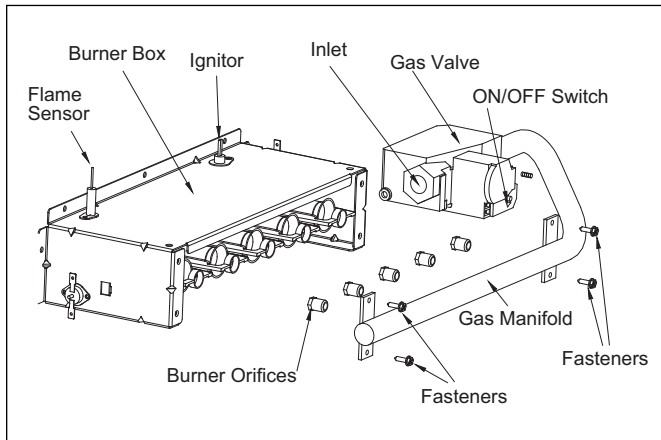
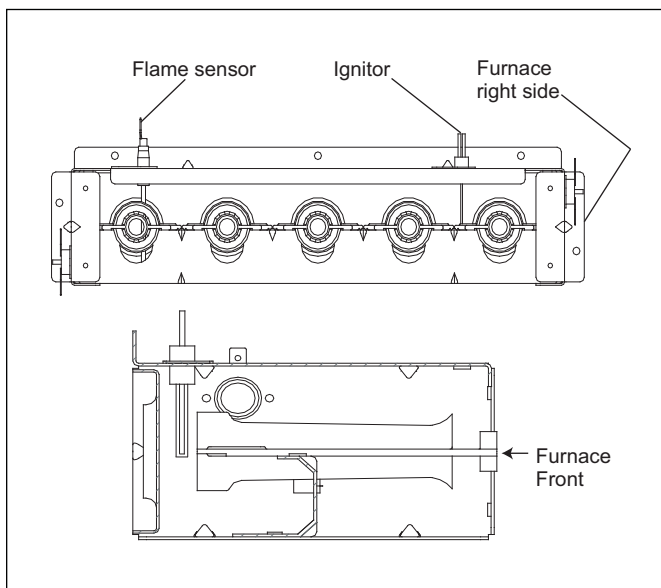

Figure 1 Typical Furnace Installation
Figure 2 Ignitor Position
1. Remove the four (4) fasteners that secure the gas manifold to the burner box, as shown in Figure 1. Carefully remove the gas manifold assembly from the burner box. Note that the gas manifold assembly consists of the gas valve, the gas manifold, and the orifices.
2. Carefully remove the burner orifices from the gas manifold, as shown in Figure 1.
1. Reinstall the gas manifold assembly to the burner box with the four (4) fasteners, which were removed earlier.
2. After installing the burner, inspect the alignment of the burners with the heat exchanger tubes. The center of the burners should be aligned with the center of the tubes. For the ignitor and flame sensor position refer to Figure 1 and Figure 2.